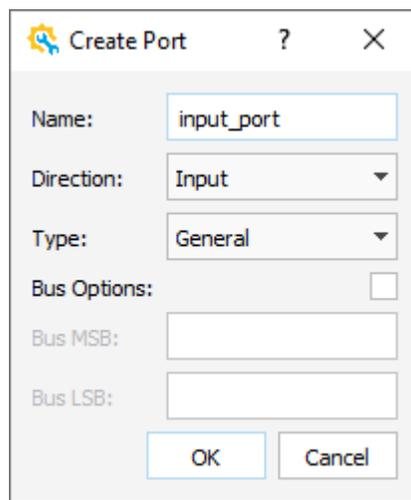

Figure 2.60. Create Port Dialog Box
- a. Right-click in the Schematic view, and choose **Create Port**. The Create Port dialog box pops up (Figure 2.60).